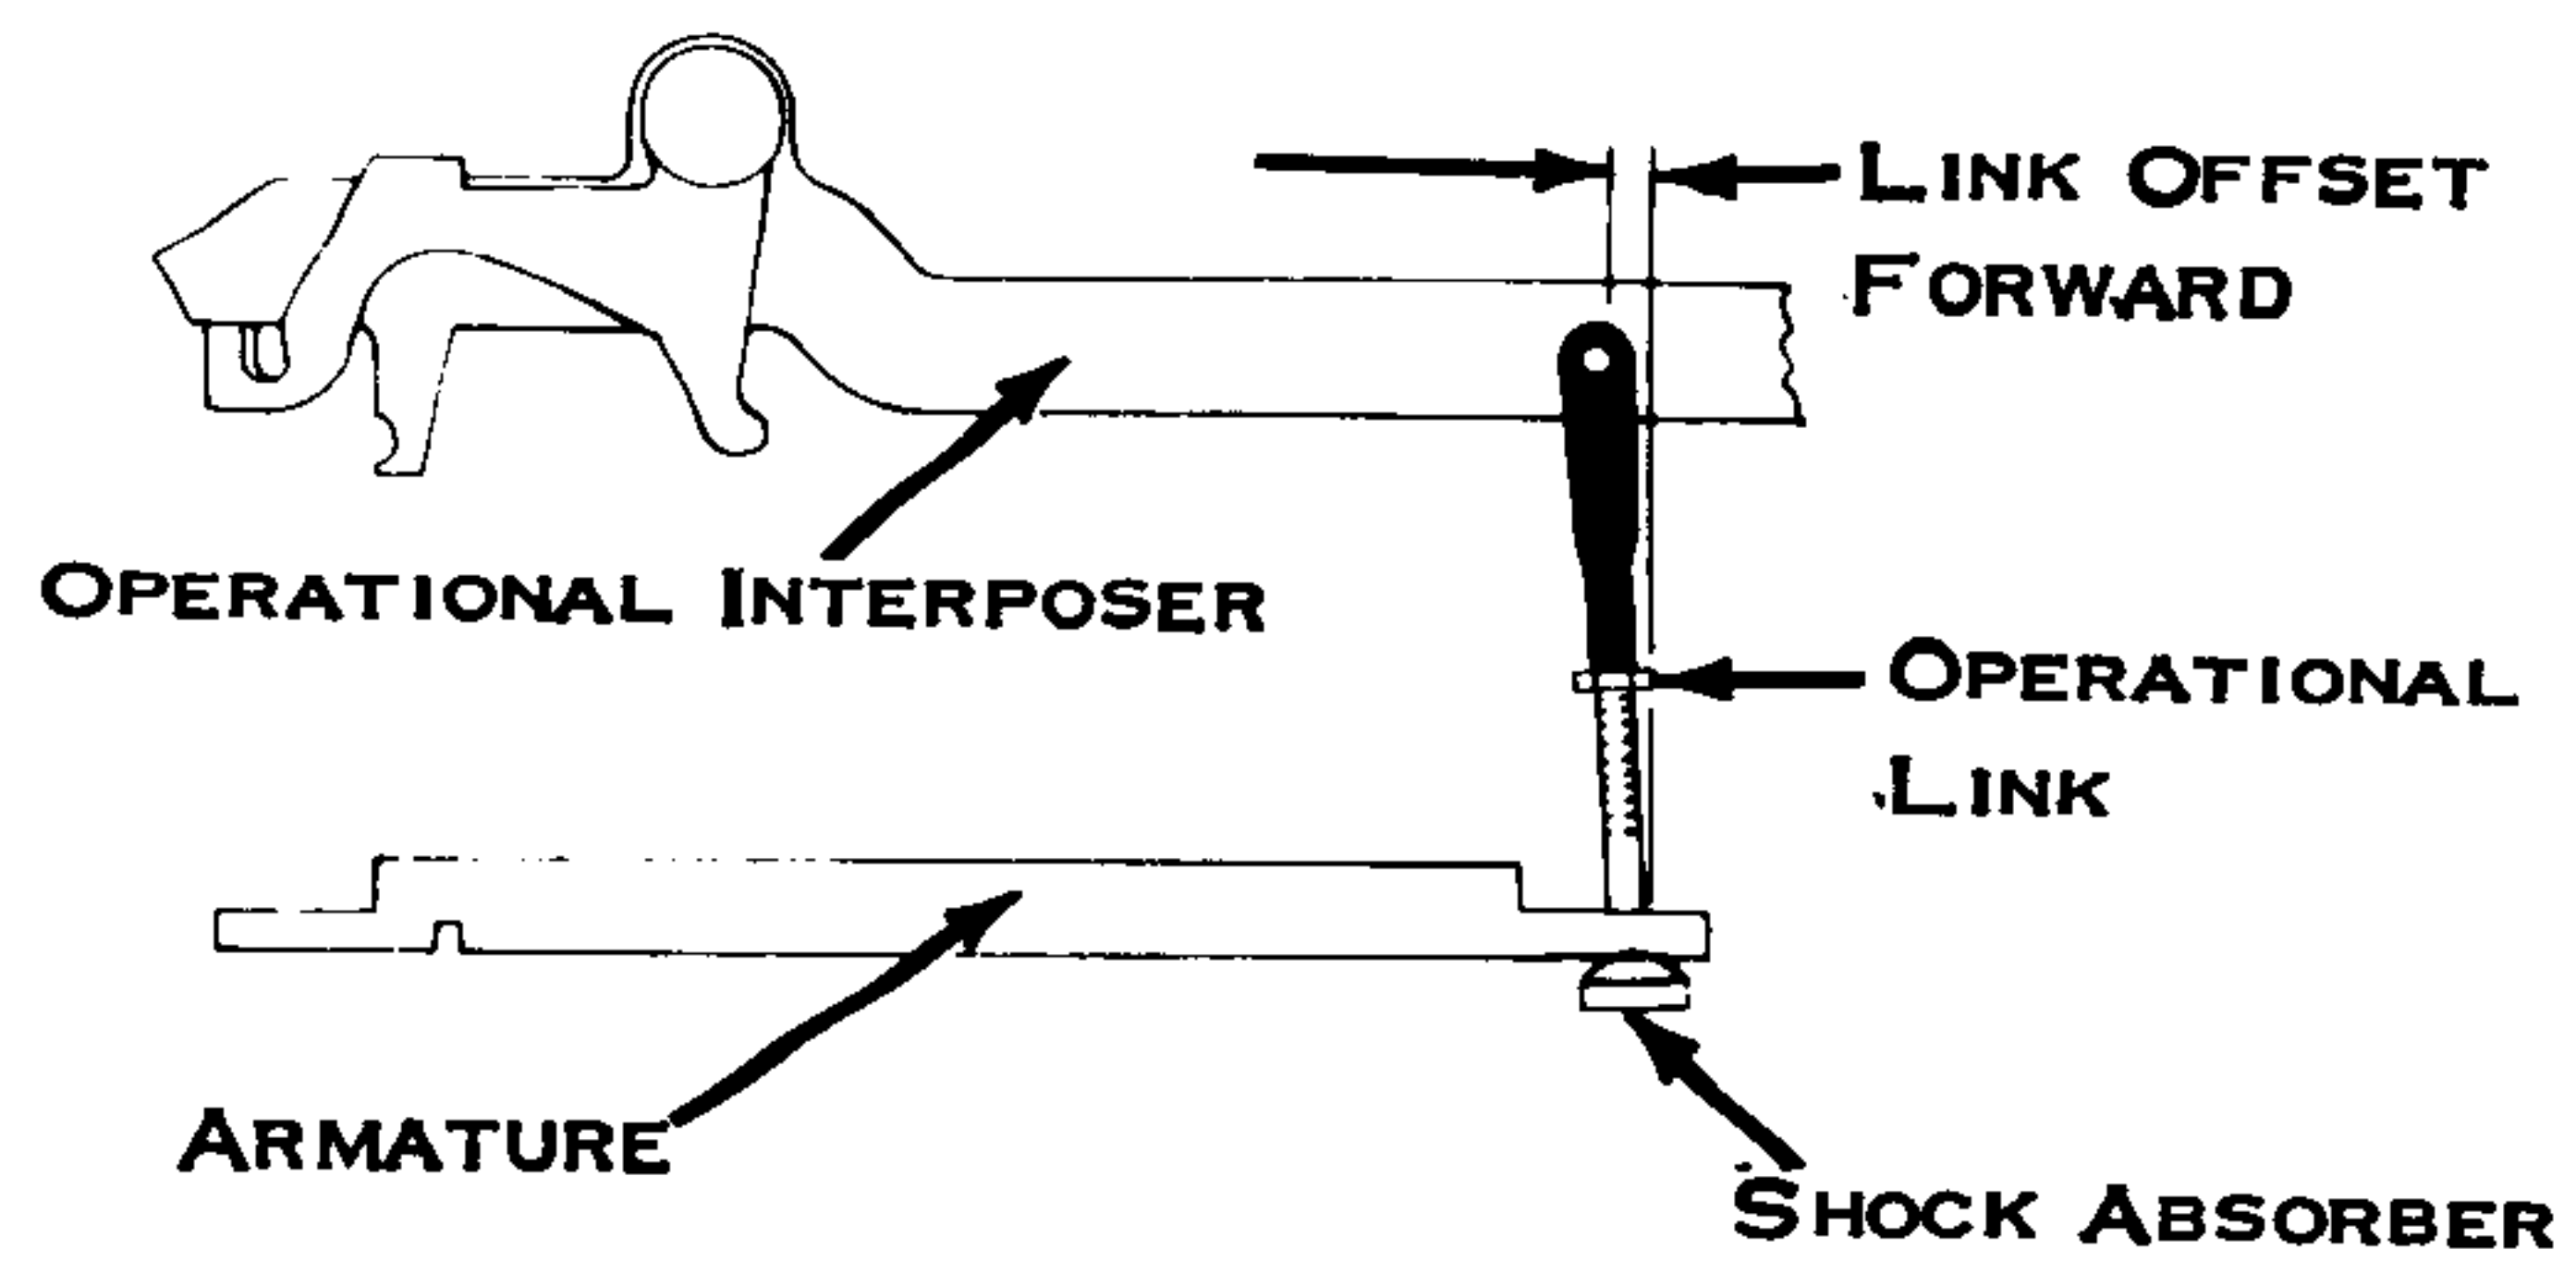

Figure 132. Front to Rear
- Front to Rear - so that the armature link holes are slightly to the rear of the interposer link holes (Fig. 132).